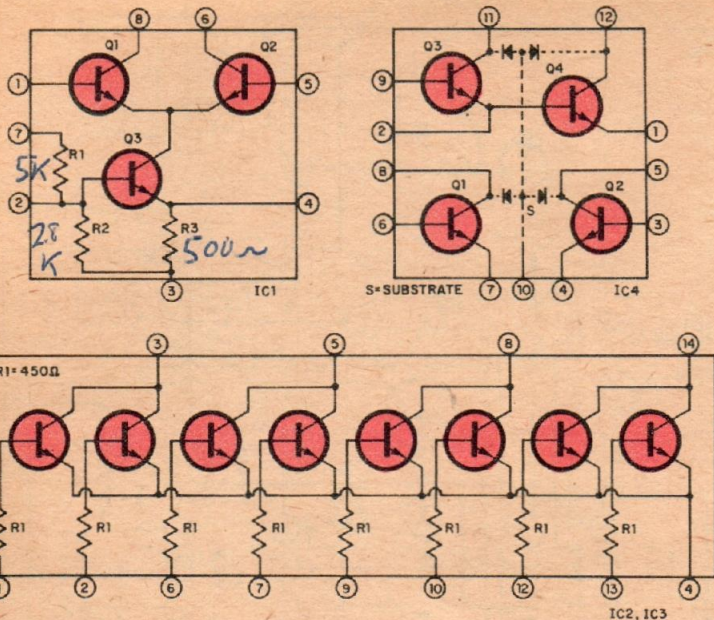

Fig. 7—Schematic of ICs used in 'scope. IC1 is in vertical amplifier. IC2, IC3 and IC4 are in sweep generator. Circled numbers at edges are IC's pin numbers.
Fig. 5—Sweep generator. This schematic is an expansion of schematic in Fig. 6. Here, ICs are opened up to show functions of different sections. Configurations of FF1, FF2, G1, G2, and one shot (two IC3s at bottom) are shown in further detail in Fig. 7.
**Sweep Generator (Fig. 6).** Two identical digital integrated circuits IC2 and IC3 are used in a computer type sequential logic circuit. The sweep generator circuit is illustrated in detail in Fig. 5. The gates in IC2 and IC3 are interconnected to form two flip-flops, a one-shot multivibrator and the required signal gating. Another integrated circuit, IC4, contains four transistors; it is shown in Fig. 7. Refer back to Fig. 5 now. Transistor Q4 operates as an emitter follower to maintain high input impedance. The base-emitter junction of Q3 has a reverse zener breakdown of about 7 V, to protect Q4 from large input-voltage swings.